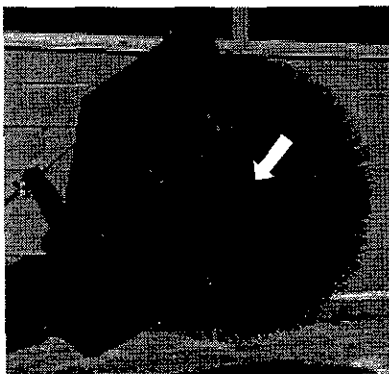

figure 13
1. Remove the chain guard (figure 13) from the right-hand side of the brush head.